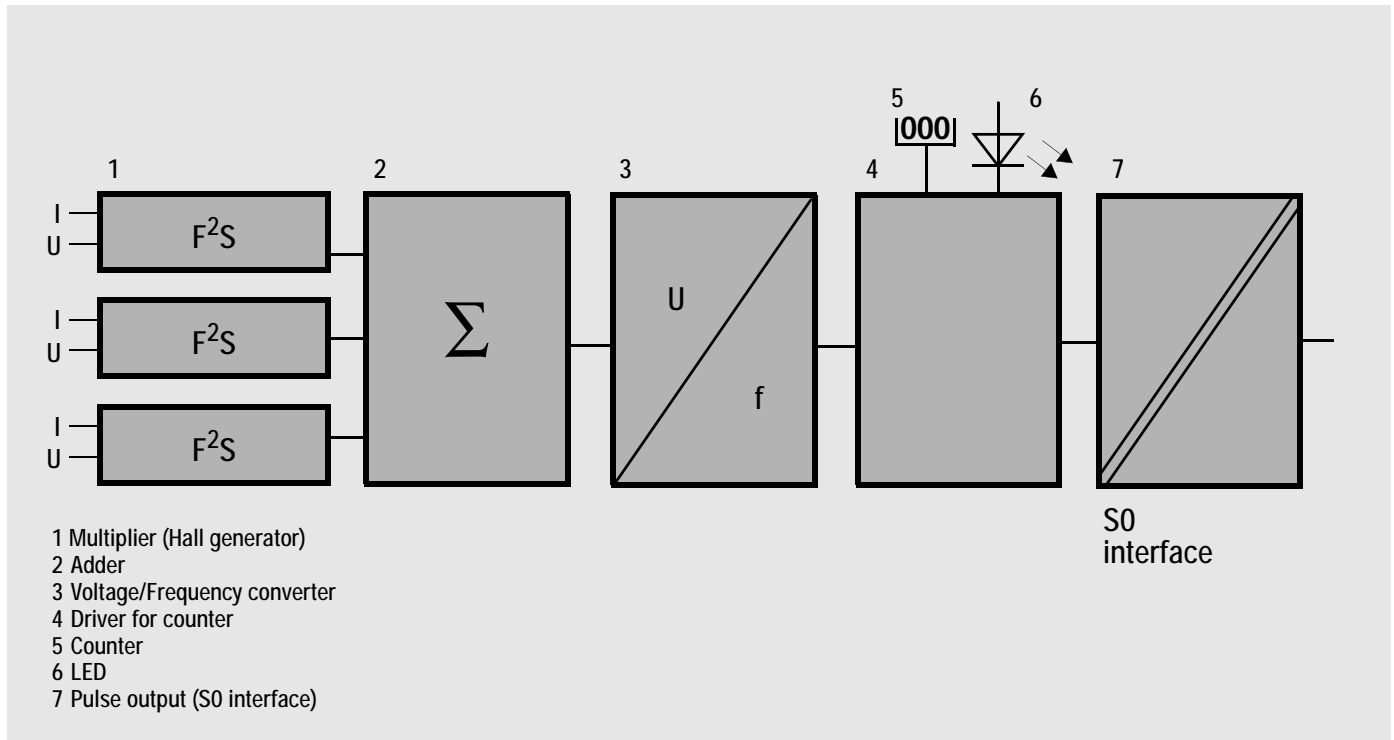

Figure 1: Block circuit diagram U2689 / U2690
**Block circuit diagram** (ex. U2689 and/or 2690), see figure 1: